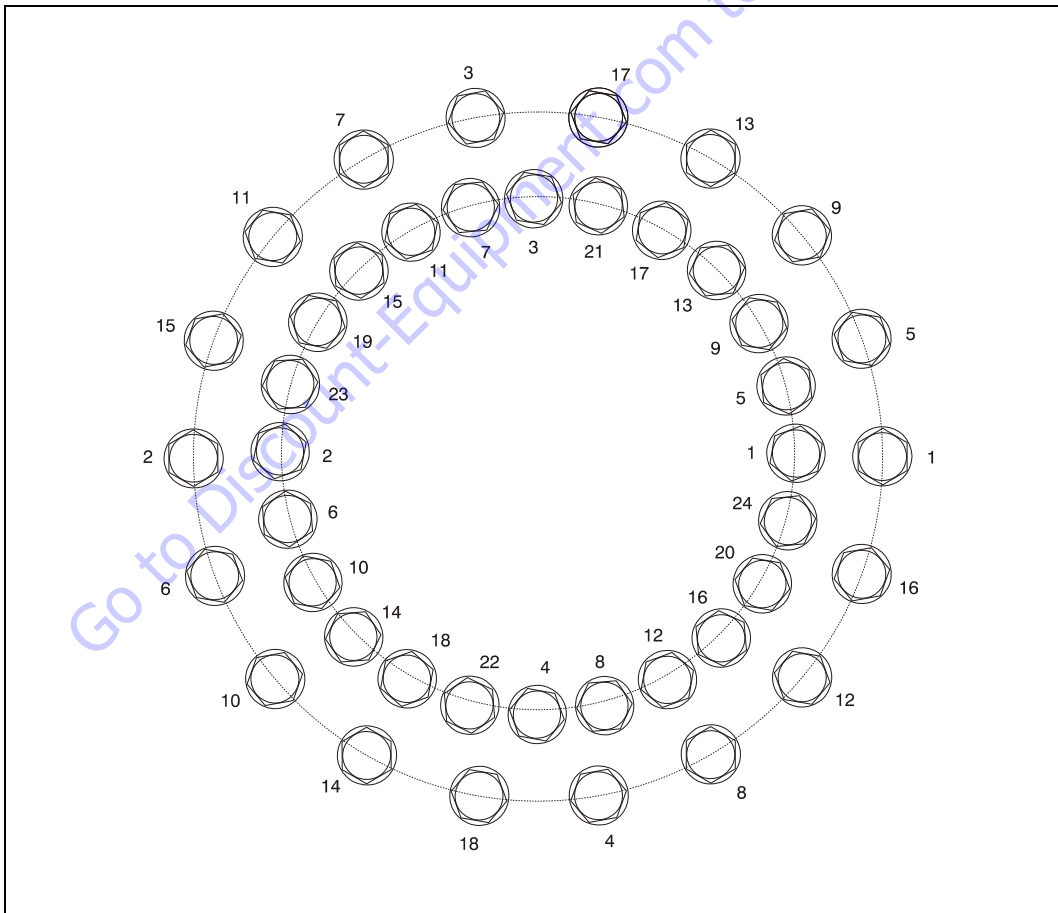

Figure 3-24. Swing Bearing Torquing Sequence
- b. Line up high spot (blue) of bearing with center tooth of worm gear. Set backlash to 0.008 - 0.010 inch (0.20 - 0.25 mm). Tighten capscrews as shown in Figure 3-24., Swing Bearing Torquing Sequence.
- g. Following the torque sequence diagram shown in Figure 3-24., tighten the bolts to an initial torque of 130 ft. lbs. (175 Nm). Then following the same sequence, tighten to a final torque of 190 ft. lbs. (260 Nm).
3. Following the torque sequence shown in Figure 3-24., tighten the bolts to an initial torque of 130 ft. lbs. (175 Nm). Then following the same sequence, tighten the bolts to 190 ft. lbs (260 Nm).